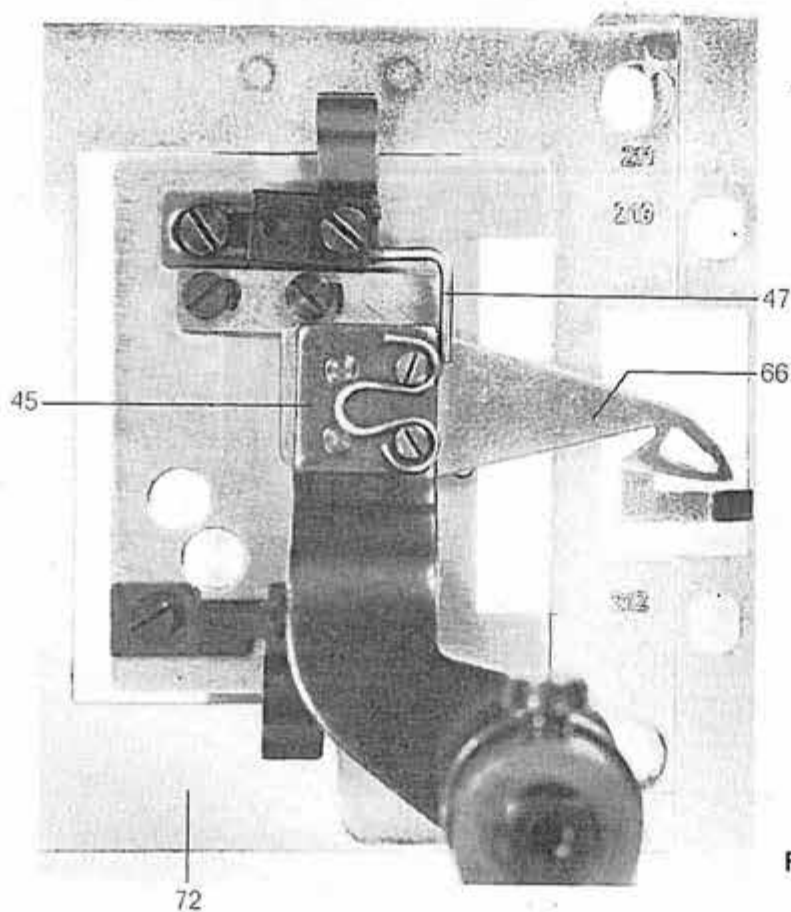

Fig. 64
The adjustment of the knives can be done by the gauge 72 (fig. 64) after removing the knife block, except in machines with vertical cutter where the adjustment must be done with the knife block in the machine.
3. Introduce the knife block in the gauge 72 (fig. 64) and, depending on the machine type, set it against the edge marked 211 and 219 or 212.
4. Adjust the hook shaped knife 66 with respect to the gauge according to fig. 64.
In this position the knife carrier 45 (fig. 64) should slightly touch the stop spring 47.